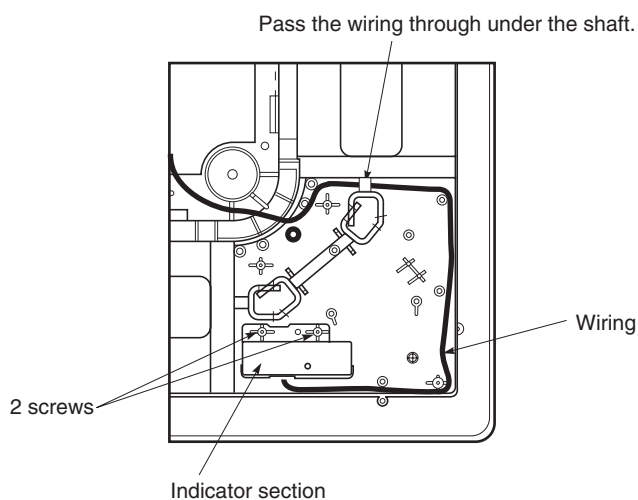

Fig. 5-6
- (4) Install the indicator section in the location where the mark section was attached. (2 screws)
- (5) Form the wire to match the panel ribs as shown in Fig. 5-6.
- (6) Install the corner cover. (Restrain the wire with the corner cover.)